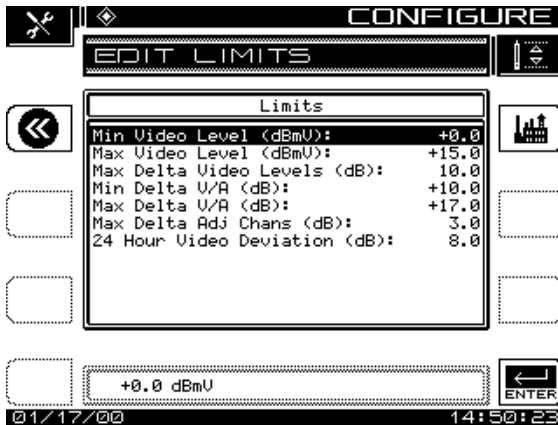

Fig. 14-8 The EDIT LIMITS Screen
- **Edit Limits:** The Edit Limits function works in conjunction with the performance of an Auto Test. As the Auto Test measurements are made, the values are compared to the above limits (Fig. 14-8).